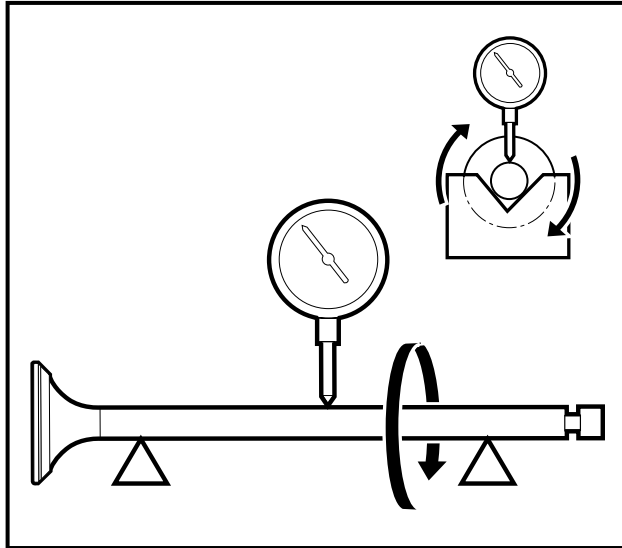

Figure 13-30 Measure Valve Stem Bend
1. Support the valve in V-blocks at each end of the stem (**Figure 13-30, Page 13-18**).